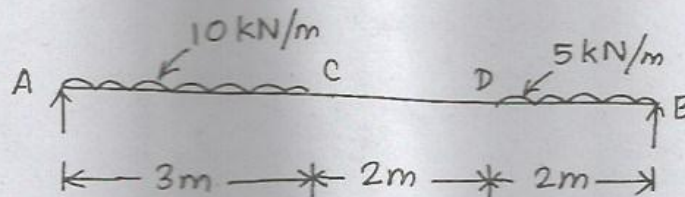

fig.Q.12(a)
12. (a) Draw shear force diagram and bending moment diagram for the beam given in fig.Q.12(a)